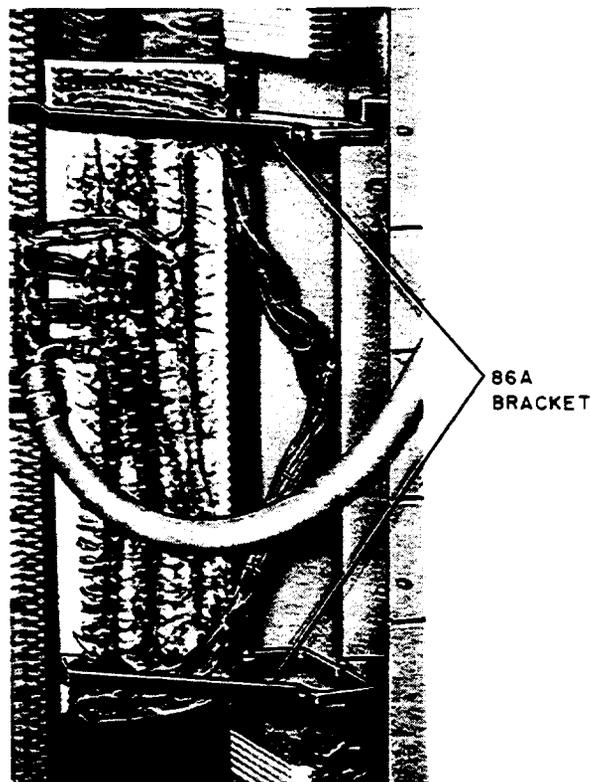

Figure 6—86A Bracket Attached to Connector Mounting Bracket
- (1) Loosen the two captive screws located on the right side of each connector and swing panel open.
- (2) Bolt two 86A brackets to the panel and mounting bracket, one at each captive screw location (Figure 6).